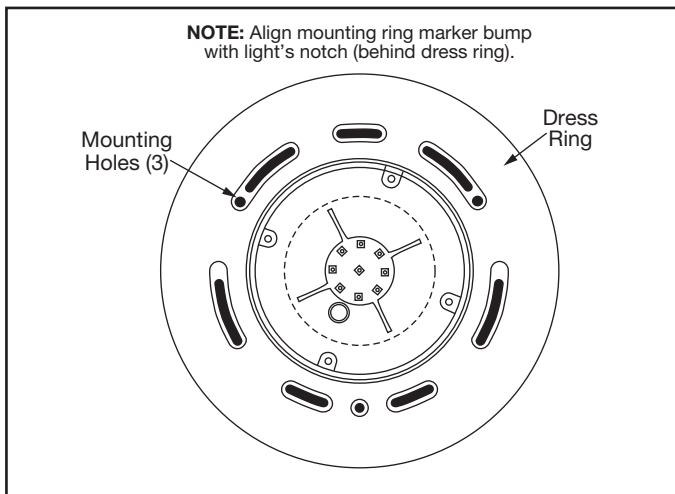

Figure 3. Lumipower Concrete Installation
8. Using the three screws (from kit P/N13529), attach the light and dress ring to the niche using a manual screw driver. Do not over-tighten, as using power tools may cause damage. Before filling the pool check the light is functioning by switching it on for a few seconds. See Figure 3.